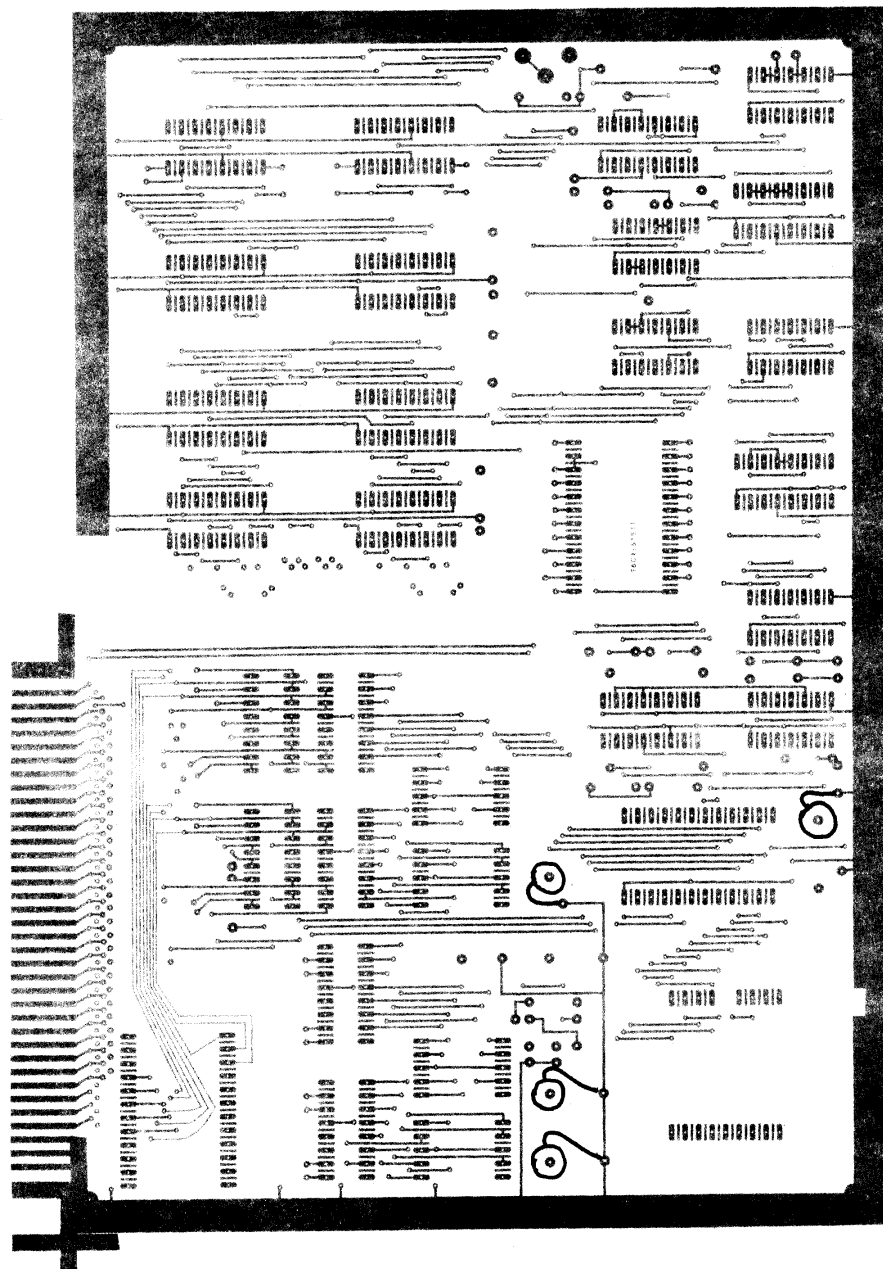

Figure 7. Toggle Switch Locations and Grounding
- (✓) Remove four toggle switches. Install in the holes indicated in Figure 7. Remove all hardware except the two nuts. Adjust one nut to allow the threads of the switch bushing to extend above the card by about 1/8 inch. Push the switch through from the solder side of the circuit board and put the other nut on and tighten it down. All switches should be installed with the contacts in a vertical row (with the top of the circuit board being the edge that contains the edge connector). Make certain that the bottom nut does not contact circuit traces.
- (✓) Cut four 1-1/2 inch pieces of wire. Strip 1/16th to 1/8th of an inch of insulation from each end. Connect and solder one end to the center contact of each toggle switch. Connect the other end to the appropriate solder pad as indicated in Figure 7.